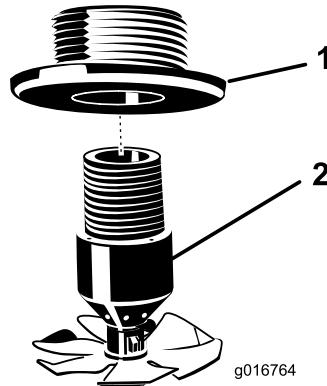

Figure 14
1. Install the rinse nozzle assembly to the bulkhead (Figure 14).